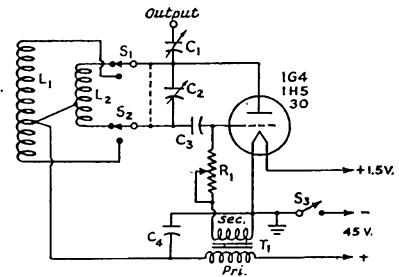

Fig. 3 — A battery-powered signal generator for 450 and 1500 kc.
Fig. 3—Development of the “space line” from a parallel-conductor transmission line. The two-wire line (A) has a characteristic impedance,  $Z_0$ , depending on size and spacing of conductors and properties of intervening dielectric. For maximum power transfer from source to line,  $Z_I$  and  $Z_0$  must be matched. This is accomplished by a coupling line (matching section).
HERE at our ATC Headquarters, I do the radio servicing work for our Special Service section as well as the majority of the work on the fellows' personal radio sets. I needed a small signal generator and tried out one originally designed by P. W. Winsford, G4DC. After slight modifications the circuit now appears as shown in Fig. 3. The location of the taps on the coils